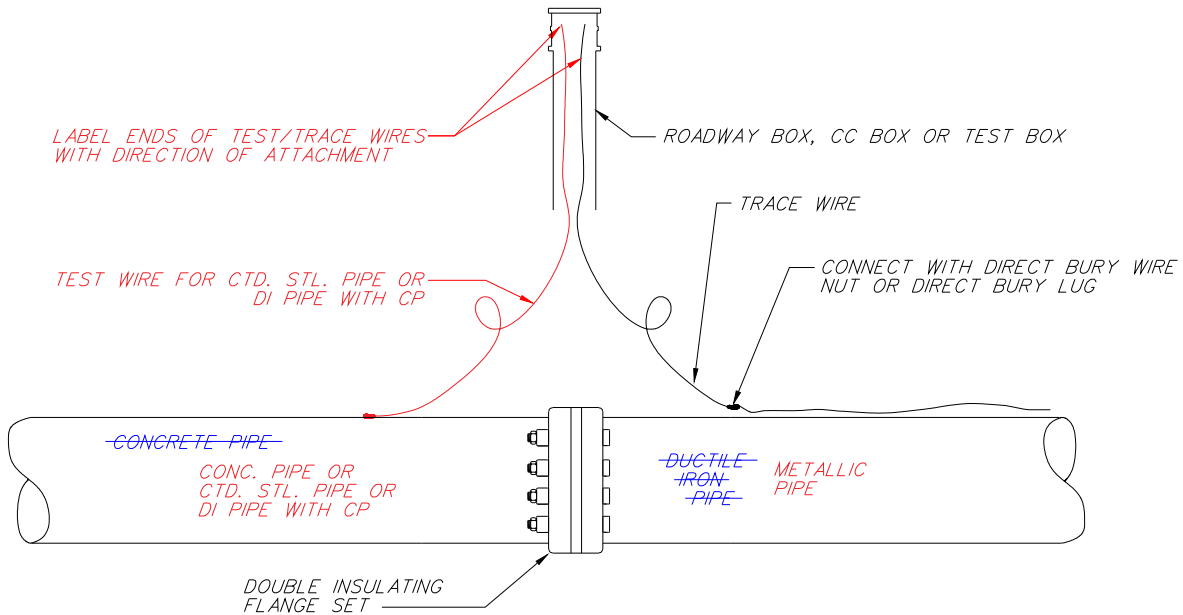

Fig. 2
8. ~~If ductile iron pipe is involved and trace wire is available with existing ductile iron pipe, attach trace wire to existing trace wire per Construction Standard 11.2.2. Install either a roadway box, CC box or test marker. Bring wire up alongside or inside roadway box, CC box or test marker per Construction Standard 11.2.2. See Fig. 2.~~ If steel pipe or ductile iron pipe with cathodic protection is involved, install anode per Anodes Required table in C.S. 8.2.1 and attach test wire to pipe per C.S. 8.3.2 (gas) or C.S. 8.3.3 (water). If ductile iron pipe is involved and trace wire is available with existing ductile iron pipe, attach trace wire to existing trace wire per C.S. 11.2.2 (gas) or C.S. 1.14.1 (water). Install either a roadway box, CC box or test marker. Bring wire(s) up alongside or inside roadway box, CC box or test marker per C.S. 8.3.1 and label wire(s). See Fig 2.